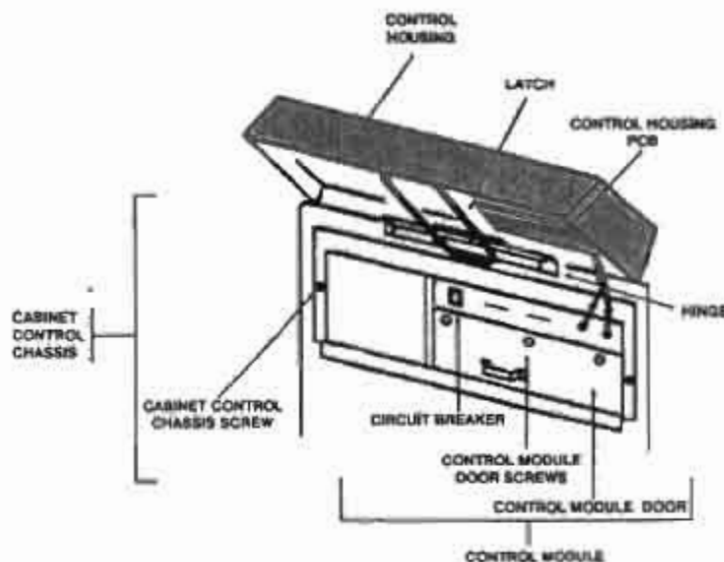
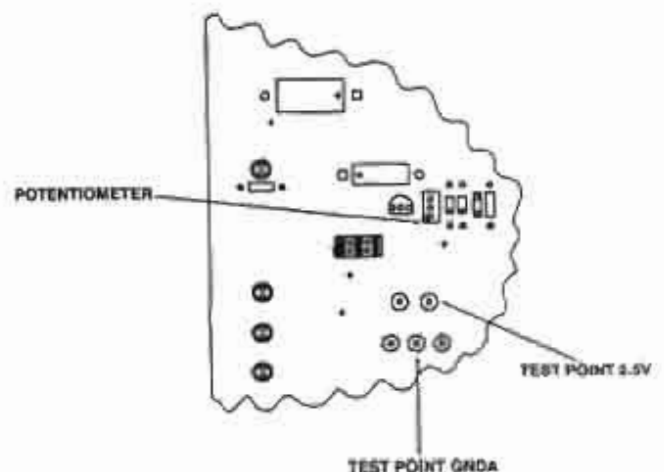

Figure 3-6. Cabinet control chassis (power supply).
Figure 3-9. Power supply (+2.5 VDC) adjustment.
3-15. Power supply voltage calibrations (fig 3-6 through fig 3-9).
- f. Also on the PCB, adjust resistor "R17" ("2.5V ADJ") until the voltmeter indicates $2.500 \text{ VDC} \pm 0.005 \text{ VDC}$. (Refer to fig 3-9.)
- (1) Close the control module door and replace the three screws.
- (2) Lift the control housing slightly upward to release the latch and then lower it.
- (3) Open the storage compartment door.
- (4) Twist the screw located in the lower right corner to lock the control housing.
- (5) Close the storage compartment door.